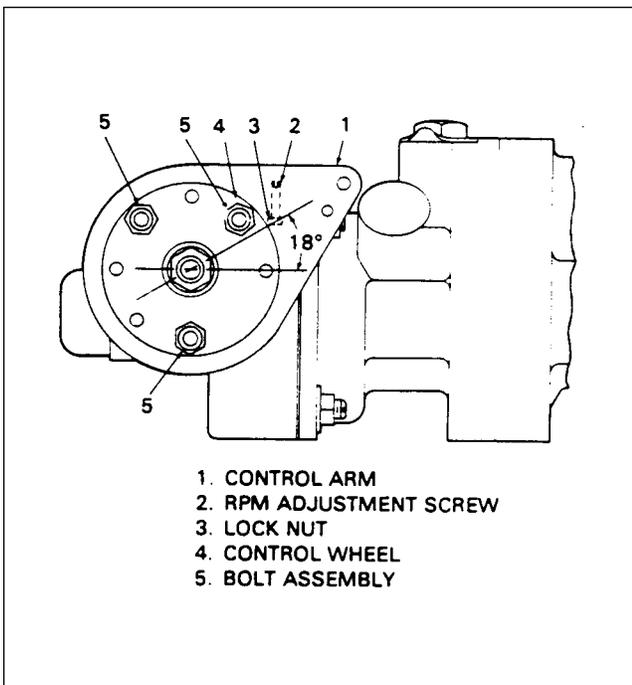

Figure 61-3. Propeller Governor
**RIGGING AND ADJUSTMENT OF PROPELLER GOVERNOR** (figure 61-3)